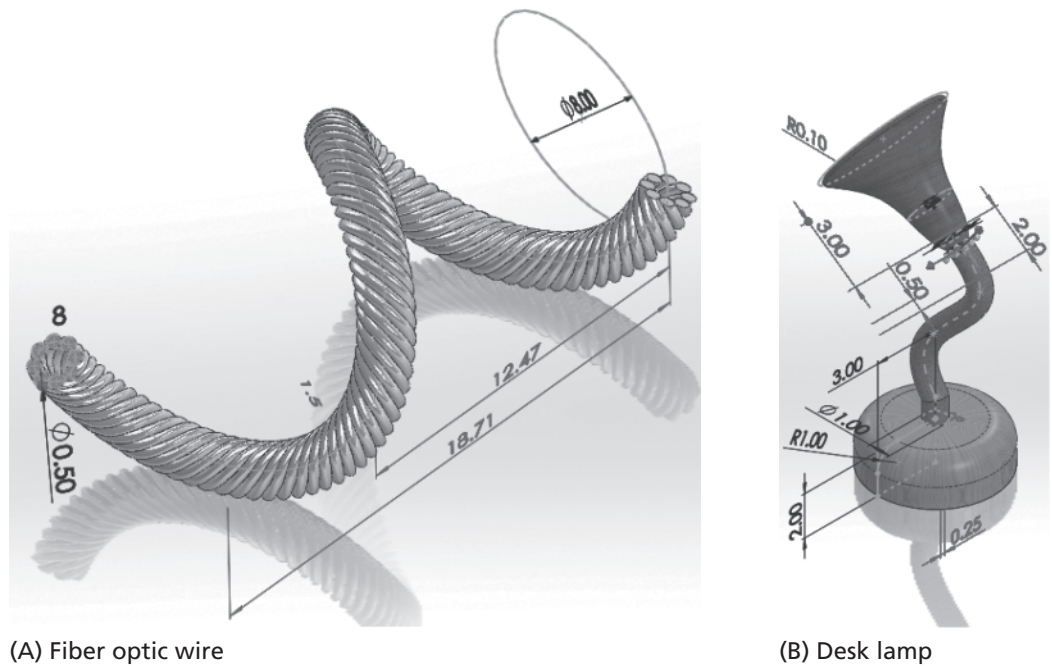

Figure 4.27
- 19** Create the CAD models shown in Figure 4.27. All dimensions are in inches.